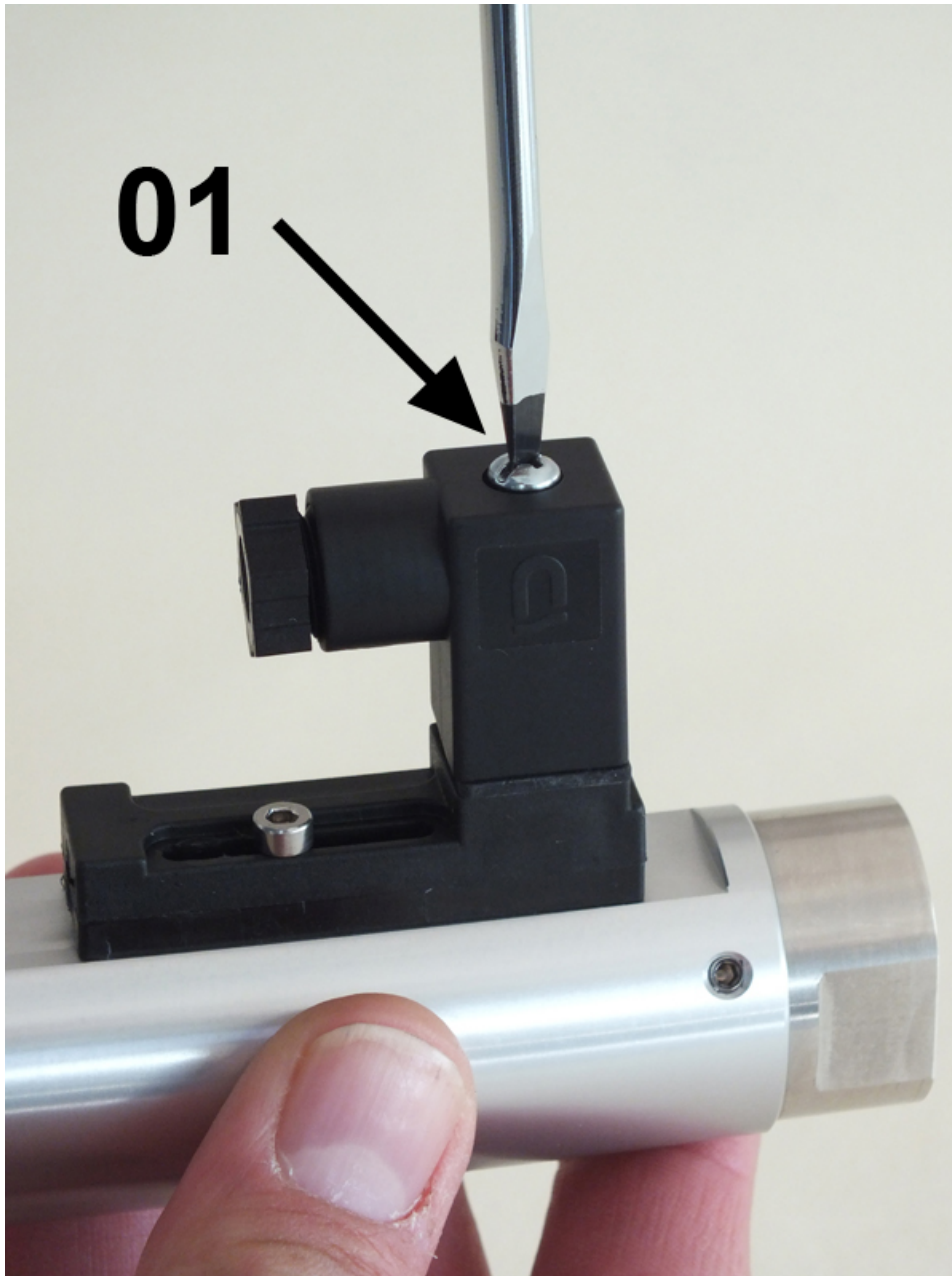

Fig. 53: Loosen female socket
1. ➤ Loosen the fixing screw of the female socket (*Fig. 53/01*) with a flat-bladed screwdriver.